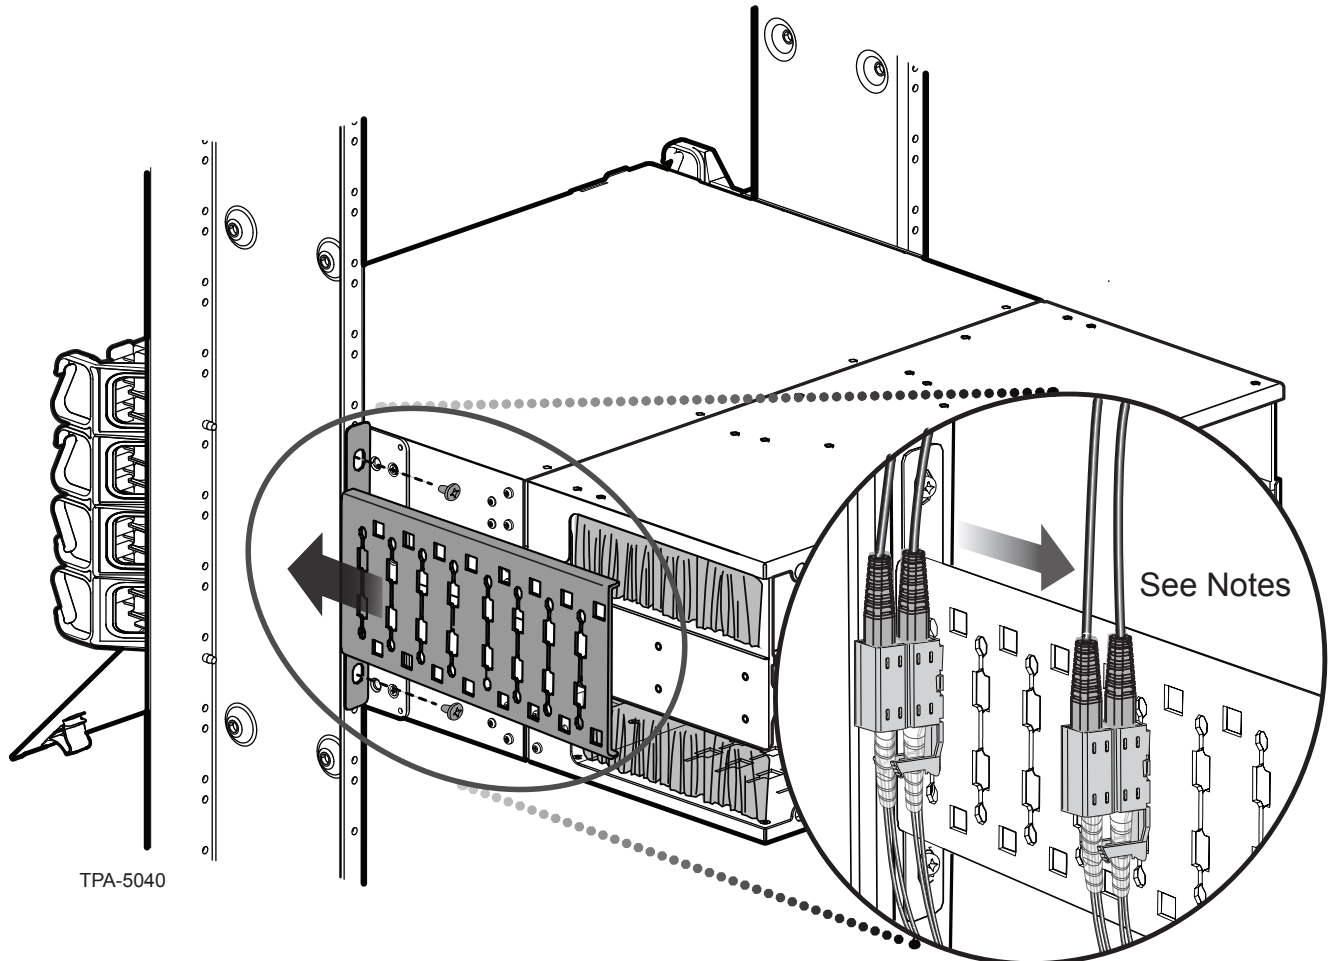

Figure 11 — Install CDF Bracket
Step 2: Install bracket using two 12-24 screws (Figure 11). Allow enough clearance when routing trunks from the bracket into the housing to ensure bend radius is maintained when trunks enter the housing.
Step 3: Insert furcation plug into cradle as seen in Figure 12 or Figure 13 and mount cradle onto CDF bracket (Figure 11).